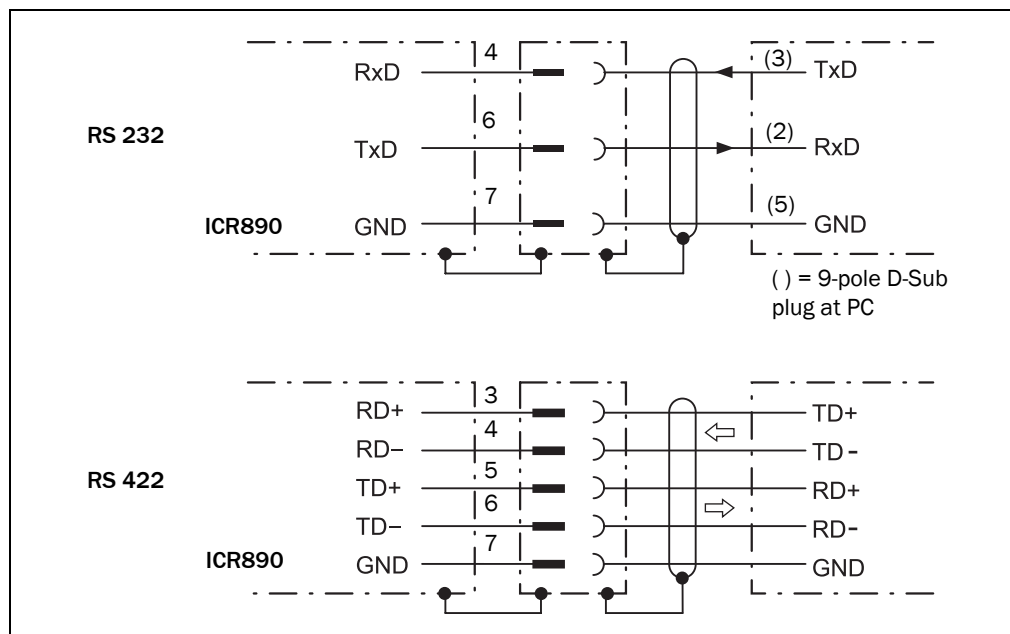

Abb. 5-6: ICD890 Camera: Wiring of the HOST/AUX data interfaces
- Wire the data interfaces correctly according to Fig. 5-6, page 66.
- Wire the versions RS 232 or RS 422 according to Fig. 5-6, page 66.